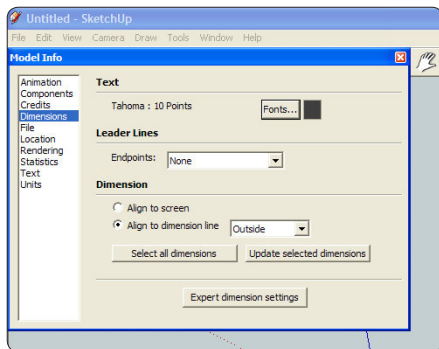

Figure 5. The dialog box for setting the size and style of dimensions and labels.
4. Click on Dimensions in the window on the left of the Model Info dialog box (Figure 5). Set Fonts to size 10 and Leader Lines Endpoints to None. Choose the label Align to Dimension Line Outside.